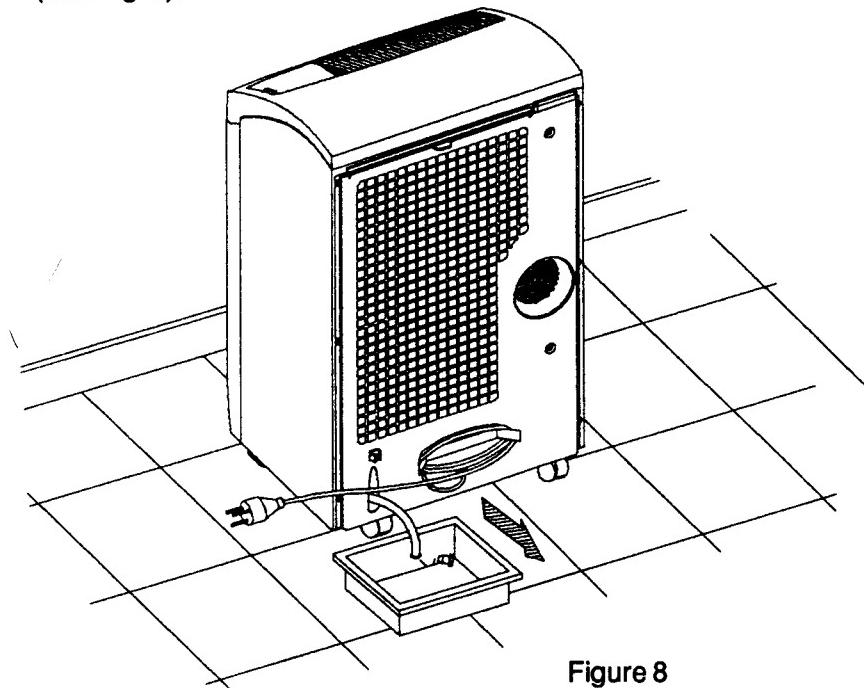

Figure 8
**NOTE:** At extremely high humidity conditions, operating in cooling or "dry" mode, the water basin may fill up. Indicator (12) will turn-on. At this point the unit will stop. Turn the unit off, drain the water basin and then restart the unit to resume normal operation. To drain the water basin, place a pan under the drain tube and remove the drain tube plug (See Fig. 8).